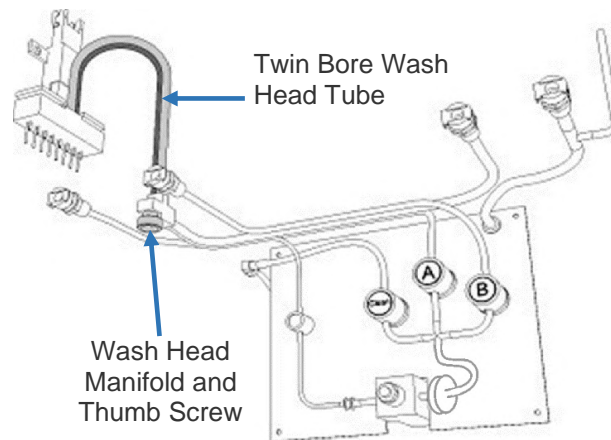

Figure 173: Disconnecting the Wash Head Aspirate and Dispense Tubes
2. Disconnect and remove the two wash buffer containers, the liquid waste container and the tip waste container (Figure 173).
5. Disconnect the **wash manifold aspirate and dispense tubes** from the **wash head manifold** (Figure 173).